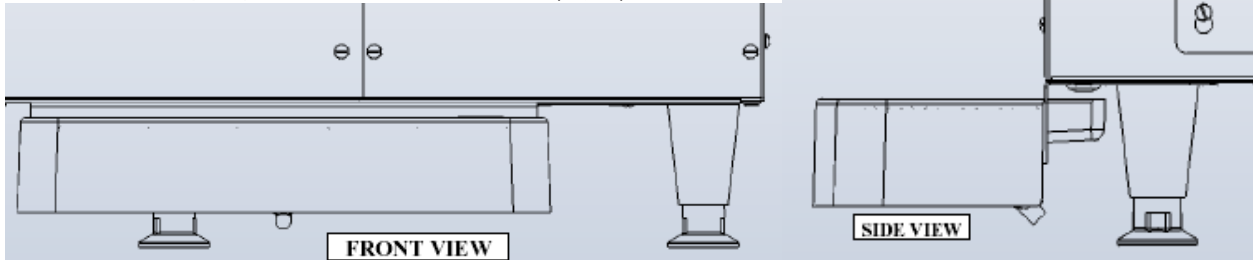

Fig. 3
3. Insert the Drip Tray onto the mounting bracket, (Fig. 3). Make sure the drain fitting is still protruding through the hole.